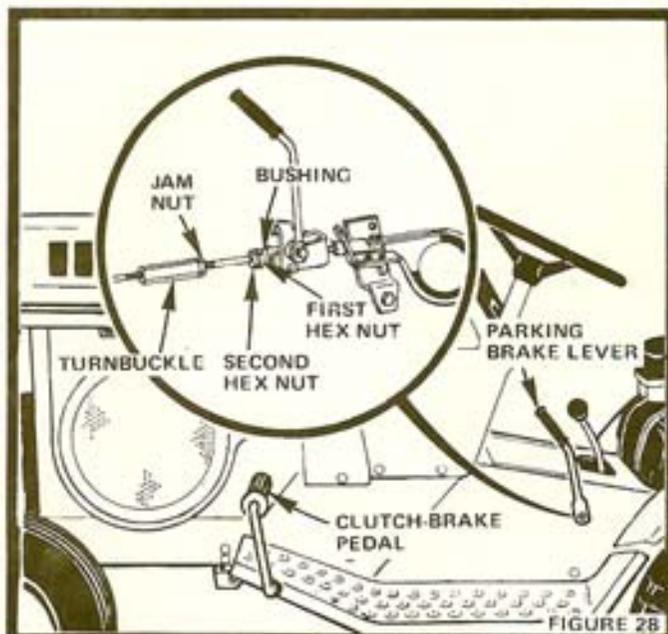

FIGURE 28
If Clutch-Brake Pedal (Fig. 28) has more than approximately 4 inches of travel from vertical to full brake position then brake adjustment is necessary.
- Loosen Jam Nut (Fig. 28) in order to turn turnbuckle clockwise (from in front of tractor) one turn at a time until Clutch-Brake Pedal regains 4 inches of travel.
- Loosen Parking Brake Hex Nuts (Fig. 28).